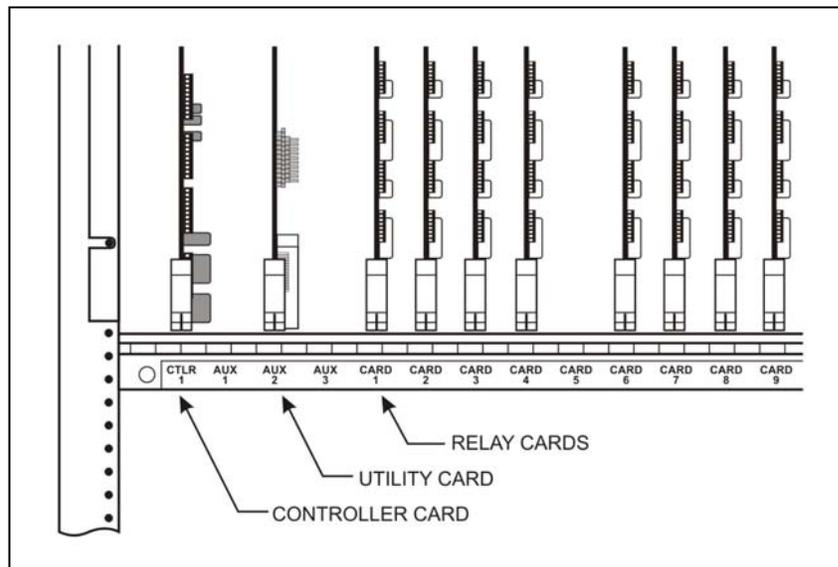

FIGURE 3-1: 289H CARD PLACEMENT POSITIONS
3. Slide the Controller Card into the first slot of the chassis, (labeled CTLR), using the 289H's top and bottom guide rails (FIGURE 3-1). To prevent you from installing a card improperly, the card is keyed so that it cannot be inserted upside down.
- Insert the Utility Card into one of the three auxiliary (AUX) slots on the left side of the chassis (FIGURE 3-1). Slide the card into the slot using the 289H's top and bottom guide rails. To prevent you from installing a card improperly, the card is keyed so that it cannot be inserted upside down.
Note: Card slots are numbered on the inside of the 289H faceplate near the hinge (Figure 3-1). Please note that the first four slots are specified as CTRL, AUX1, AUX2, AUX3, respectively. Even though AUX2 and AUX3 may be empty, do not place relay cards in these slots.